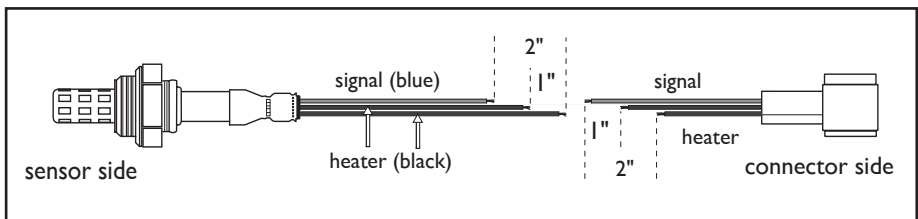

Fig. 1
6. With the two sensors laid out side by side, cut off the original sensor so overall length will be 2"- 3" longer than before. (See Fig. 1) This will allow connections to be made at evenly spaced intervals so the heat shrink tube can fit over the butt connections and the finished overall length to match the original.